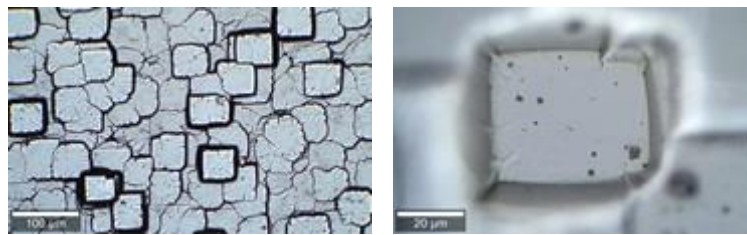

Figure 1: Video image with 20x/0.5 NA objective (left) and video image with 100x/0.9 NA objective (right)
Figure 1: Si lens. Left: Topography. Middle: Only one depth level is in focus with the standard confocal Raman microscope. Right: The same image as in the middle, but with TrueSurface activated the Si signal is constant from all depths as the sample surface is always kept in focus.
- The TS principle requires reflected light from the sample surface to be measured. Edges or strongly inclined areas can scatter or reflect the light beyond the collecting angle of the objective, which results in lower TS signal, especially for objectives of low **numerical aperture (NA)**. Figure 1 shows video images of a silicon step sample. In the image on the left, acquired with a 20x/0.5 NA objective, the edges appear black because less light from there is collected by the objective. In the image on the right, the 100x/0.9 NA objective could collect light reflected from the edges due to the higher NA and the respective larger collecting angle.